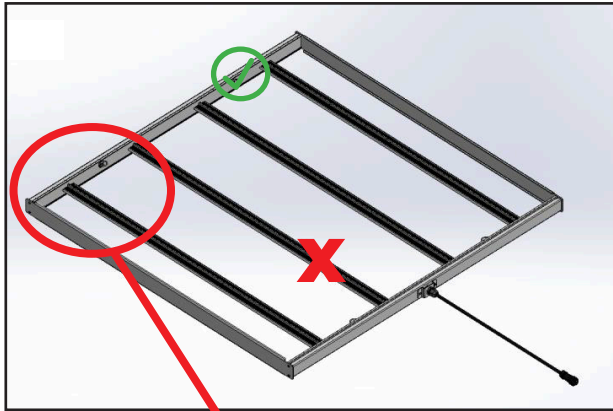

FIG. 1
2. Do not handle the luminaire using the LED bars as this can damage it and diminish performance. Be sure to only lift from the primary fixture structure. (FIG. 1)